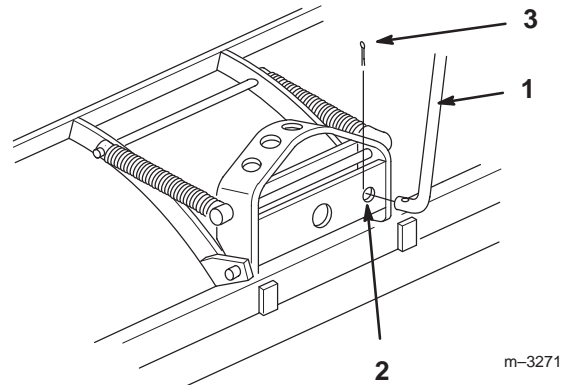

Figure 3
4. Insert the end of the control rod without the welded washer through the 1/2 in. (13 mm) hole in the bottom plate of the channel (Fig. 3).
5. Insert a 1/8 x 1 in. (25 mm) cotter pin through the hole in the rod and bend the ends of the pin (Fig. 3).